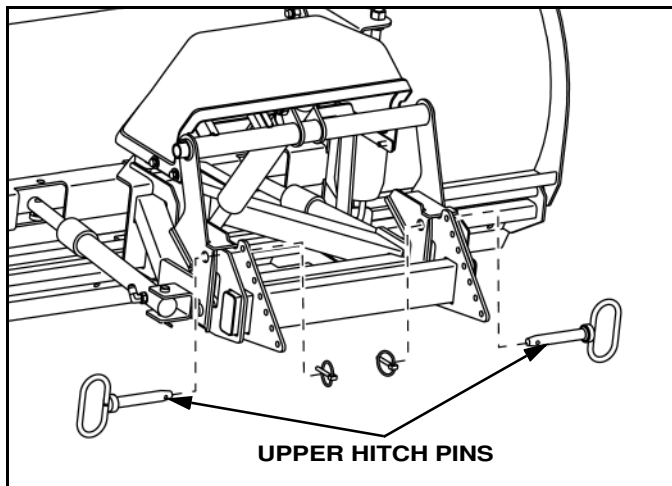

Figure 1-15
3. Remove upper hitch pins. (See Figure 1-15).